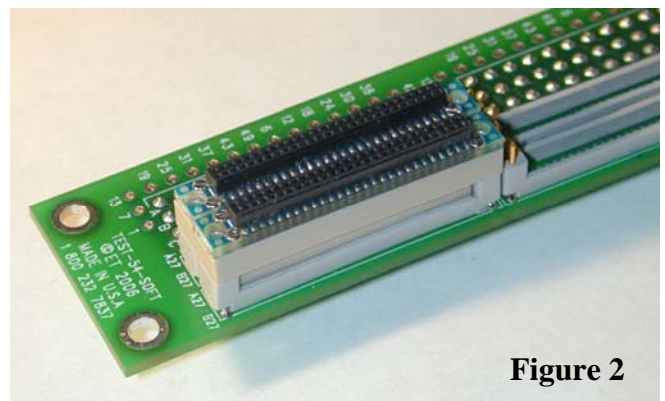

Figure 2
1. The AS-MICTOR38TP-SOFTTCH-1 requires the Pro Series Soft Touch retention module to be attached to the target PCB. Installation instructions for the retention module can be found in (2).
2. Insert the pogo-pin base into the retention module, PCB side up. The base is symmetrical, and requires no orientation. Be sure the breakout card is not yet attached. (Figure 2)